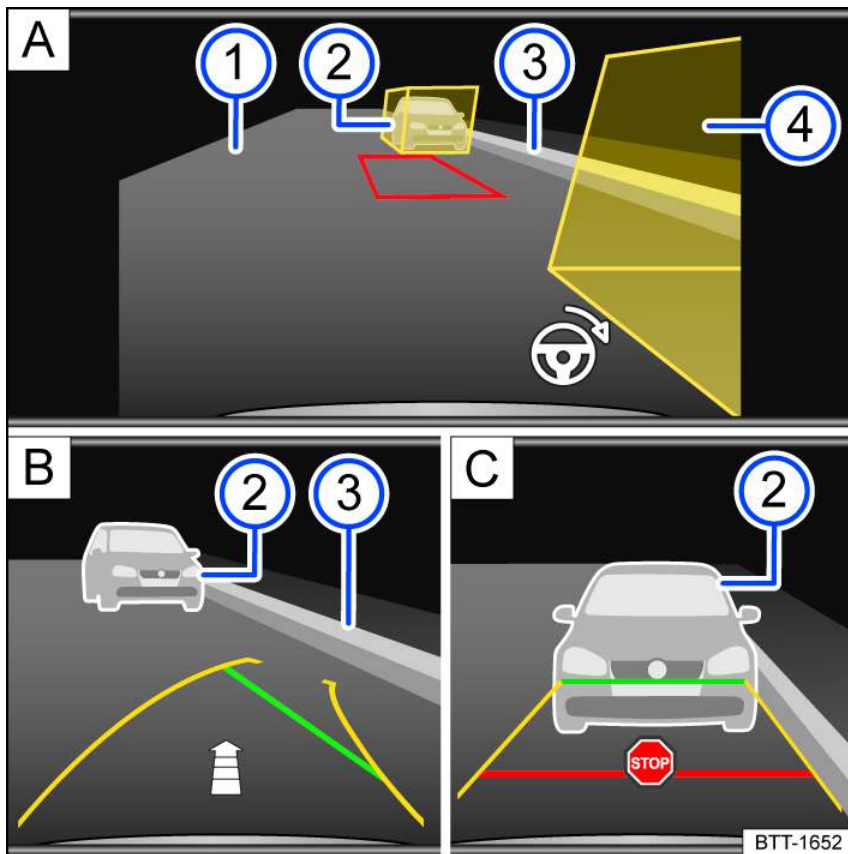

Fig. 117 Infotainment system: Parking parallel to the road.
- ① Road surface.
- ② Obstacle or assisting box.
- ③ Side boundary of the parking space.
- ④ Obstacle or assisting box.
4. Position the vehicle at a distance of approximately 1 m (3 ft) parallel to the parking row. The yellow assisting boxes must cover the obstacles fig. 117 A ② c ④. The area in between must be free of obstacles.
5. Select the reverse gear. A red frame represents the target position of your vehicle fig. 117 A.
6. Turn the steering wheel until the red frame moves between the assisting boxes and becomes green fig. 117 A. Hold the steering wheel in this position while driving in reverse.
7. Drive slowly in reverse until the  stop symbol appears or the green line aligns with the side boundary of the parking space fig. 117 C. An fig. 117 B arc indicates the remaining distance to be driven based on the number of displayed segments.